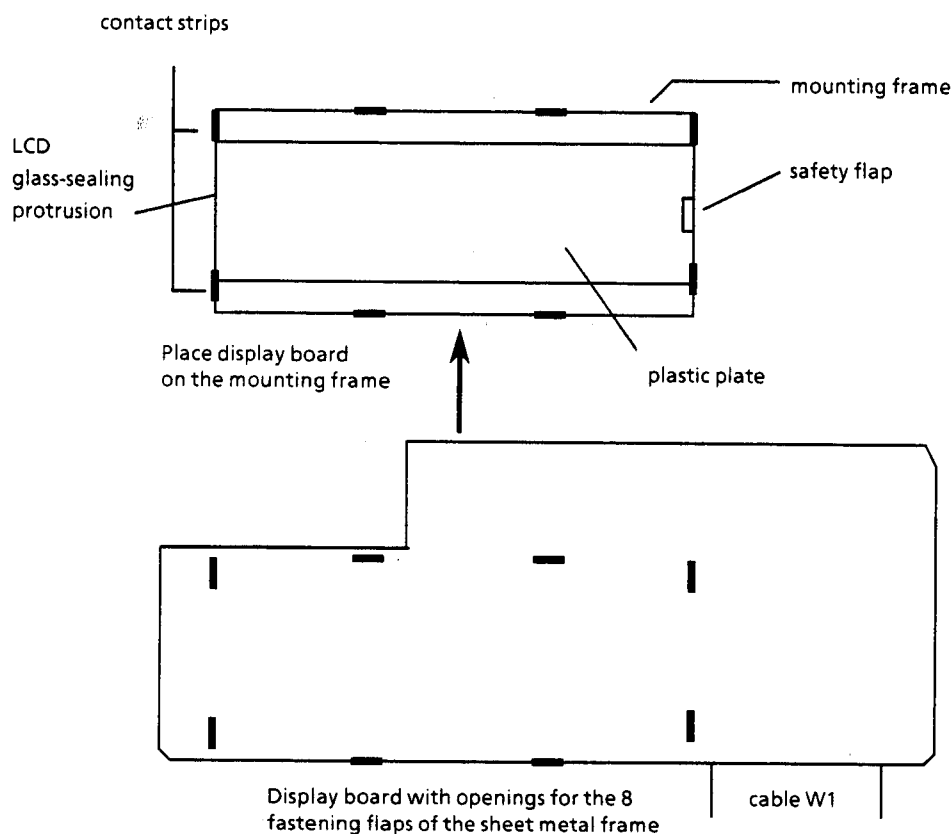

Fig. 7-14 Mounting the LCD
- Using a flat-nose pliers, straighten out the fastening flaps of the mounting frame. They are located on the solder side of the display board (→ Fig. 7-14 below).